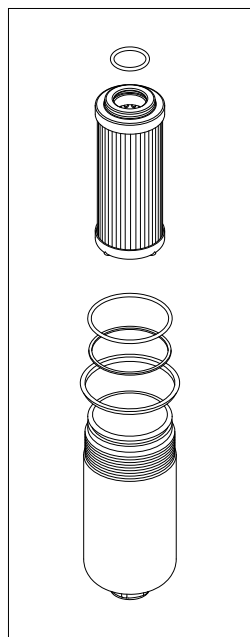

fig. 15
- (Fig. 15) Fit #1: the anti-extrusion ring and #2: the O-ring in the bowl groove, insert the O-ring in the filter element cap